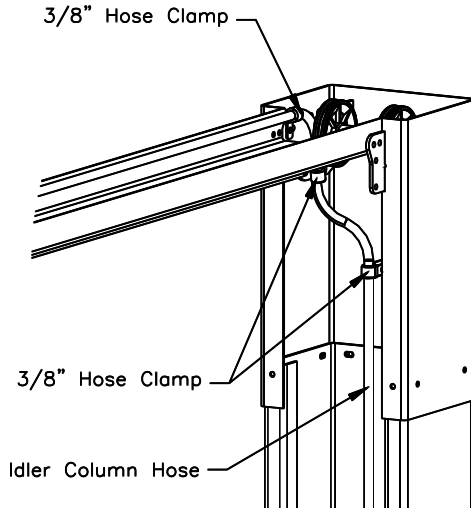
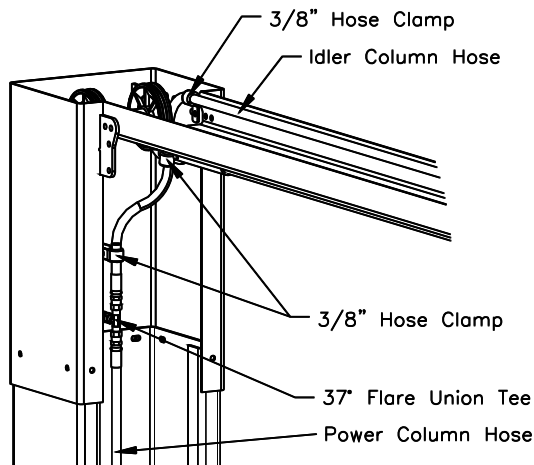
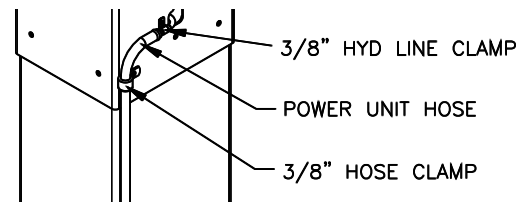

Fig 8a – Idler Side Column Ext. Hose Routing
Fig 8b – Power Side Column Ext. Hose Routing
Fig 9a – Power Unit Hose
- 22) Uncoil Idler side hose and route through the Idler Side column extension as shown in **Fig 8a**. taking care to avoid the synchronizing cables and hydraulic cylinder path. Remove slack and tighten all 3 clamps. Route hose across overhead avoiding the synchronizing cables and down through the Power Side column extension as seen in **Fig 8b**. Do Not Tighten Clamps at this time.
- 23) Loosely attach power column hose and idler column hose using the tee fitting (*in hardware box*) Attach Power Unit Hose to power side column extension as seen in **Fig 9a**. Connect Power unit hose to tee from **Fig 8b** and remove slack from power column hose. Tighten loose fittings and clamps from previous step. Serpentine any extra hose length in overhead.